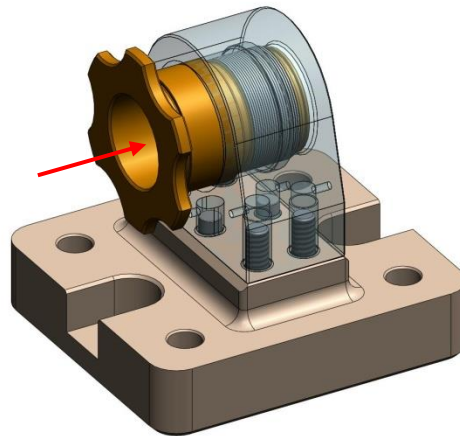

Figure 3.13. Locker Sleeve is inserted in the Locker Sleeve Housing. Run the Sleeve's thread into the internal thread in back of Housing.
- Insert **Locker Sleeve** (D070270) into **Locker Sleeve Housing** as shown in Figure 3.13. *The fit is very tight, and can easily bind!* Thread **Sleeve** all the way into the **Housing**.